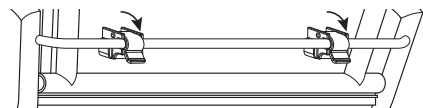

Fig. 5
2. Lock the clips, one at a time, by pressing them down with both thumbs until they click into place and are firmly clamped around the crossbar. (Fig. 5)